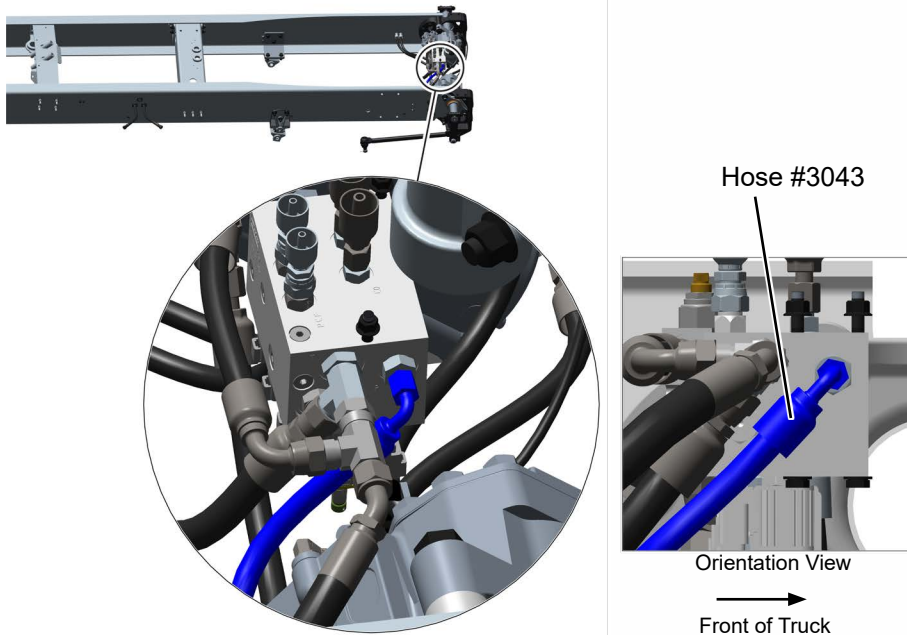

Figure 6
16. Make sure hose #3043 is correctly orientated at the chute manifold. See Figure 6.